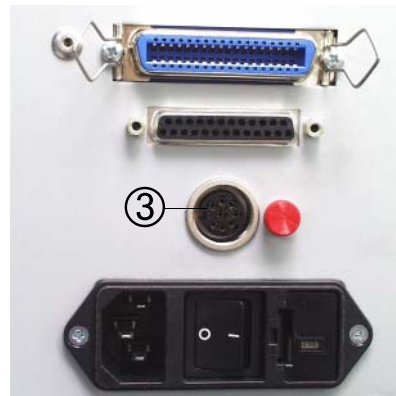

Fig. 1: Connect the power cable to the stacker terminal (2) and to the power socket. Connect the single start cable to the printer (3).
1. Position the stacker in front of the printer in such a way that the two side panels (3) of the stacker lie against the knife (4, see fig. 1).
4. Push the side part (6) so that the label material (7) ends up lying on the conveyor belt with some lateral clearance (Fig. 1).